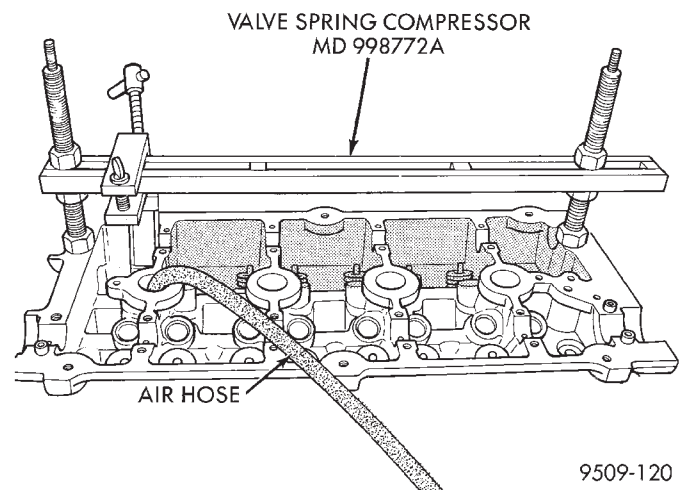

Fig. 43 Valve Spring—Removal/Installation
(1) Remove camshafts as previously outlined in this section.
(2) Rotate crankshaft until piston is at TDC on compression.
(3) With air hose attached to adapter tool installed in spark plug hole, apply 90-120 psi air pressure.
(4) Using Special Tool MD-998772-A with adapter 6779 (Fig. 43) compress valve springs and remove valve locks.
(5) Remove valve spring.
(6) Remove valve stem seal by using valve stem seal tool.
(2) Install valve spring and retainer, use Special Tool MD-998772-A with adapter 6779 to compress valve springs only enough to install locks (Fig. 43). Correct alignment of tool is necessary to avoid nicking valve stems.
(3) Remove air hose and install spark plugs.
(4) Install camshafts as previously outlined in this section.
(5) Install cylinder head cover as previously outlined in this section.